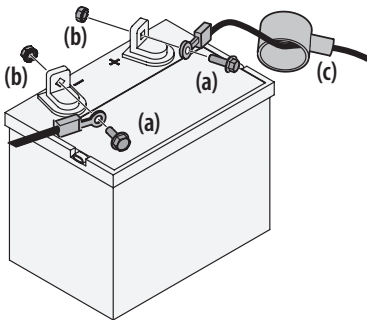

Figure 21
1. If present, remove the plastic cover from the positive battery cable. Attach the red connector to the positive battery terminal (+) using the hex bolt (a) and nut (b). See Figure 21.
2. If present, remove the plastic cover from the negative battery terminal and attach the black cable to the negative battery terminal (-) with the hex bolt (a) and nut (b). See Figure 21.